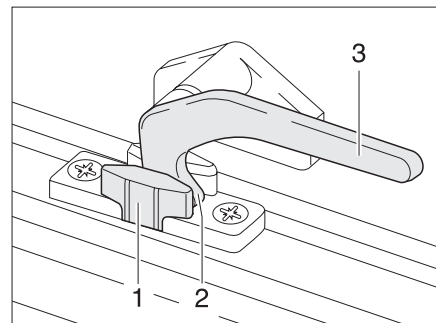

Fig. 36 Catch lever in the "continuous ventilation" position
- "Continuous ventilation" (Fig. 36)
- ▶ Turn the catch lever (Fig. 36,3) a quarter turn towards the centre of the window.
- ▶ Turn the catch lever a quarter turn towards the window frame. The locking catch (Fig. 36,2) has to be moved into the recess of window catch (Fig. 36,1).